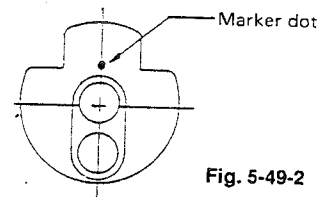

Fig. 5-49-2
- 2) As Fig. 5-49-2 indicates, the crank balancer has to be assembled 13mm (0.511") away.